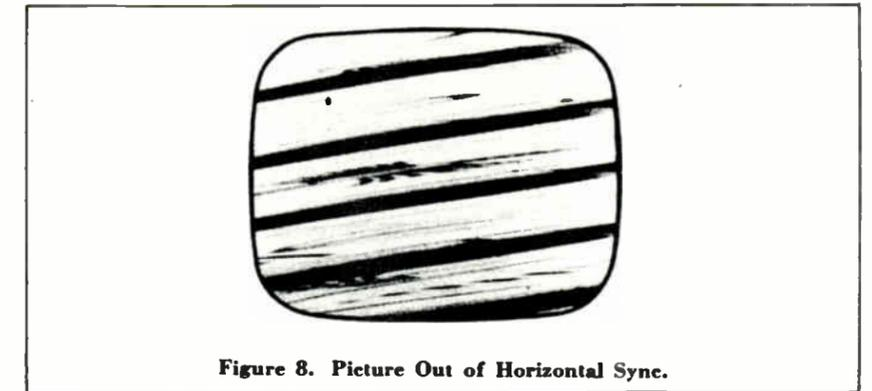

Figure 8. Picture Out of Horizontal Sync.
7. Set the HORIZONTAL control (A) fully counter-clockwise to break sync. If the picture does not go out of sync, momentarily interrupt the channel selector or adjust the HORIZONTAL FREQUENCY (B) until several bars appear sloping downward to the left. (See figure 8).
8. Slowly turn the HORIZONTAL control (A) clockwise and note the least number of bars present before the picture falls into sync. If two or three bars are present, the LOCK RANGE trimmer is set properly, so reset the HORIZONTAL control (A) to maximum counterclockwise and adjust the HORIZONTAL FREQUENCY (B) until the picture falls back into sync.
9. If more than three bars are present, adjust the LOCK RANGE trimmer (C) slightly clockwise. If less than 2 bars are present, adjust the LOCK RANGE trimmer (C) counterclockwise. Repeat steps 7 and 8.
10. Rotate HORIZONTAL control (A) on the front panel from one end to the other. The picture should hold sync as follows:
11. If picture does not hold sync as described in paragraphs "a" or "b" above, set the HORIZONTAL control (A) at the point where the picture just loses sync or becomes unstable and adjust the HORIZONTAL FREQUENCY (B) until the picture just falls back into sync. If may require several turns of adjustment (B). Repeat this procedure until the picture holds as described in paragraphs "a" or "b" of step 10.